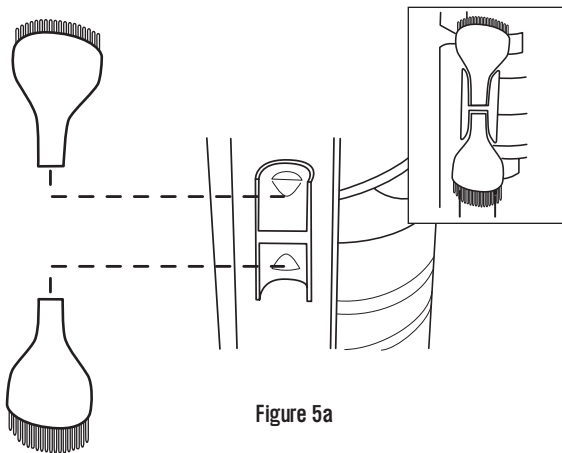

Figure 5a
1. Locate the Dusting Brush and Universal Cleaning Tool Holder on the right side of the Vacuum Cleaner. (See Figure 5a.)